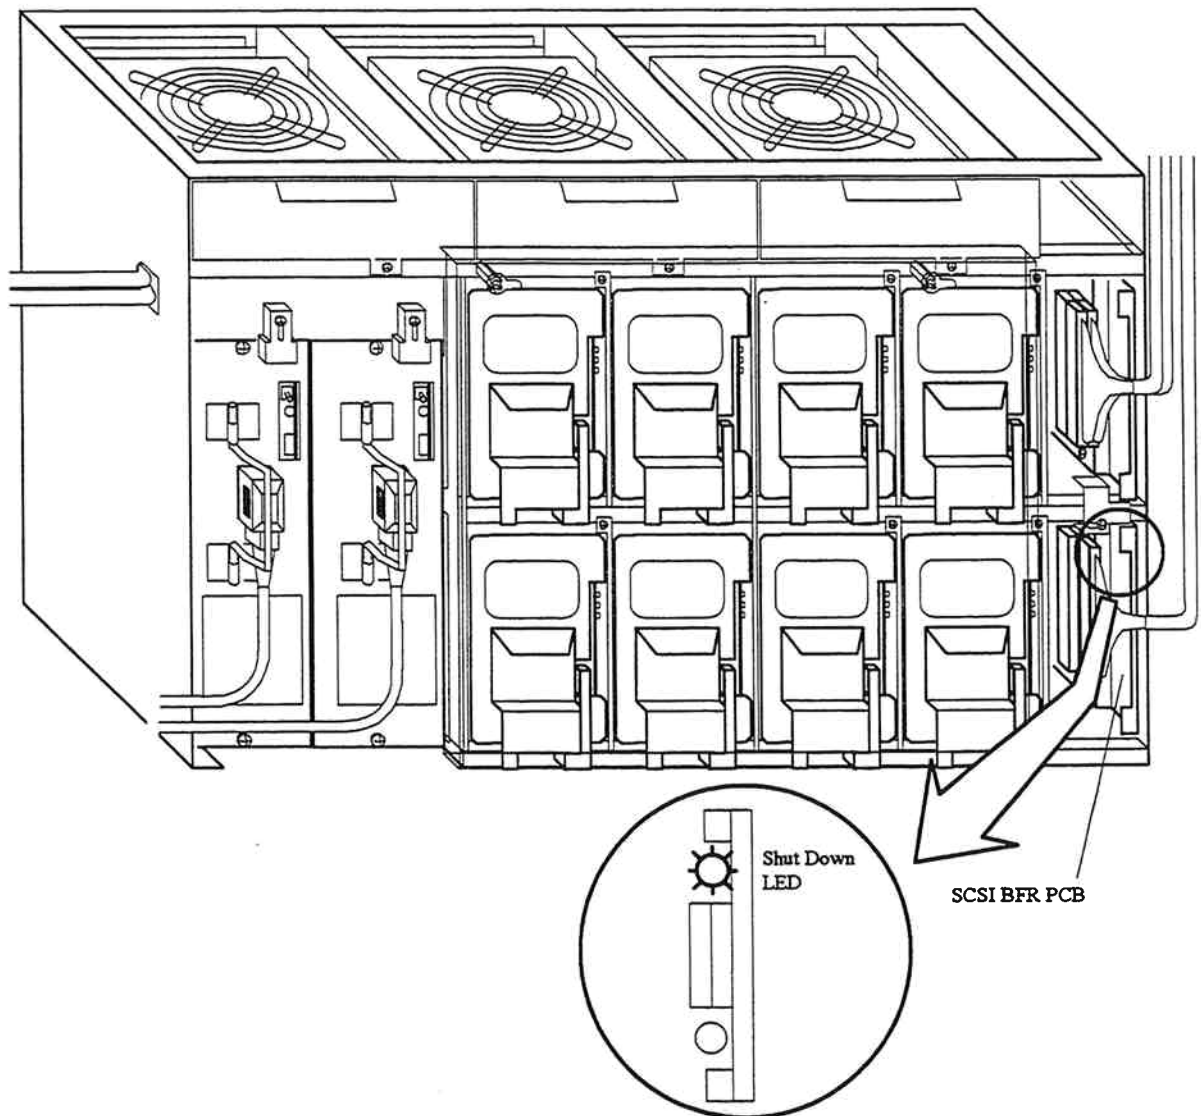

Fig. 3.3.13.2.3-6 Confirmation of the Shut Down LED Light
7. Connect the SCSI interface cables to the SCSI BFR PCBs in the first DKU chassis referring to figures 3.3.13.2.3-7 and 3.3.13.2.3-8.